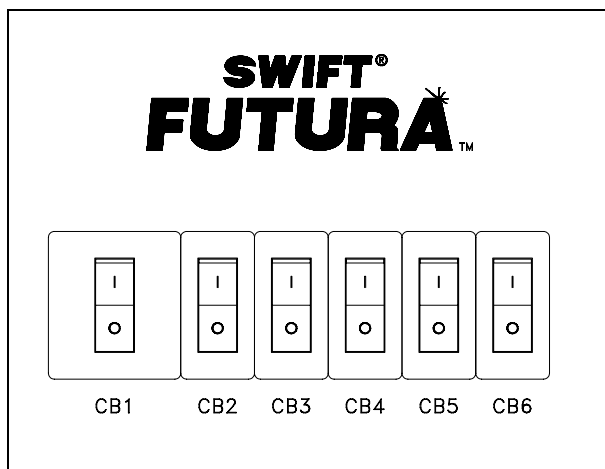

Figure 2-1
2. Verify all the circuit breakers on the front panel (located at the top of the controller) are in the **OFF** position. [See Figure 2-1.]